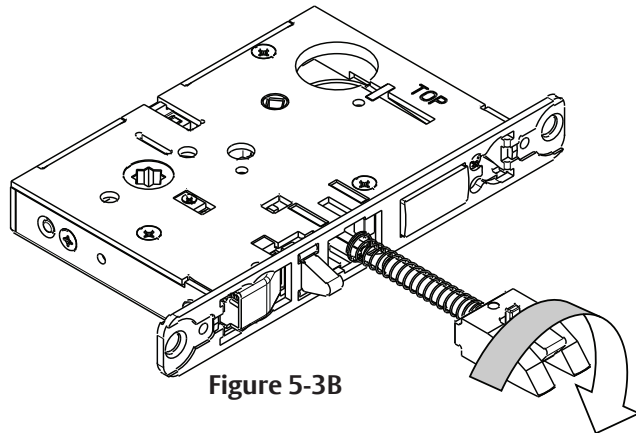

Figure 5-3B
3. Pull latch out of lockbody and rotate 180 degrees. (Figure 5-3B)